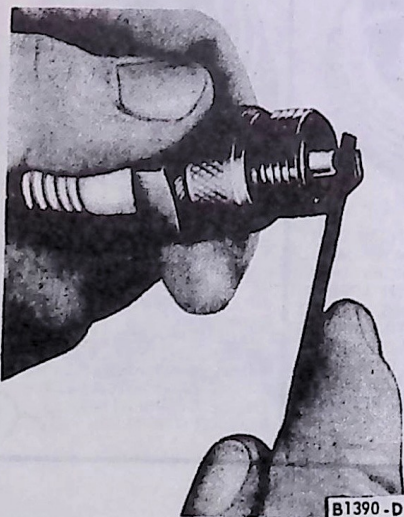

FIG. 75 Cleaning Spark Plug Electrode
3. Clean the electrode surfaces with a small file (Fig. 75). Dress the electrodes to secure flat parallel surfaces on both the center and side electrode.